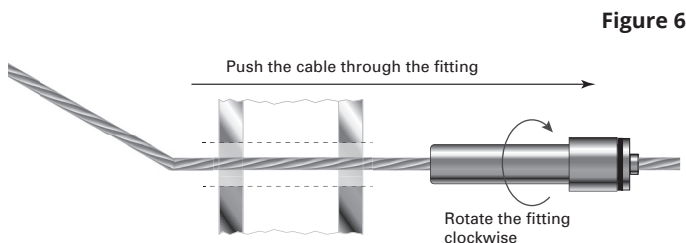

Figure 6
2. Rotate the Pull-Lock® fitting clockwise as you push it onto the cable. If the cable begins to "unravel," you are rotating the fitting in the wrong direction. (Figure 6)